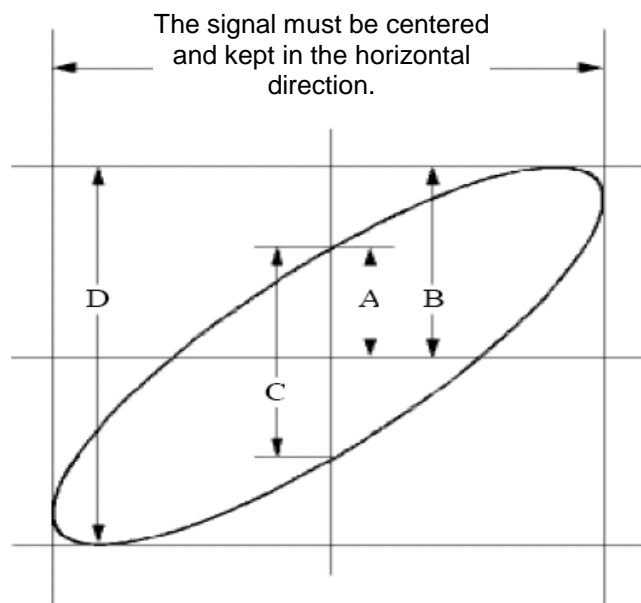

Fig. 110 Lissajous Graph
8. With the elliptical oscillogram method adopted, observe and calculate the phase difference (see Fig. 110).